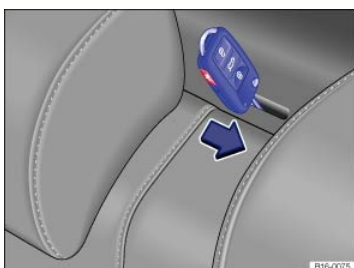

Fig. 183 Behind the rear seat backrest: Release of the rear seat back.
- To release the rear seat backrest, insert the vehicle key into the slot in the shelf behind the rear seat backrest ⇒ Fig. 183 and push in the direction of the arrow.